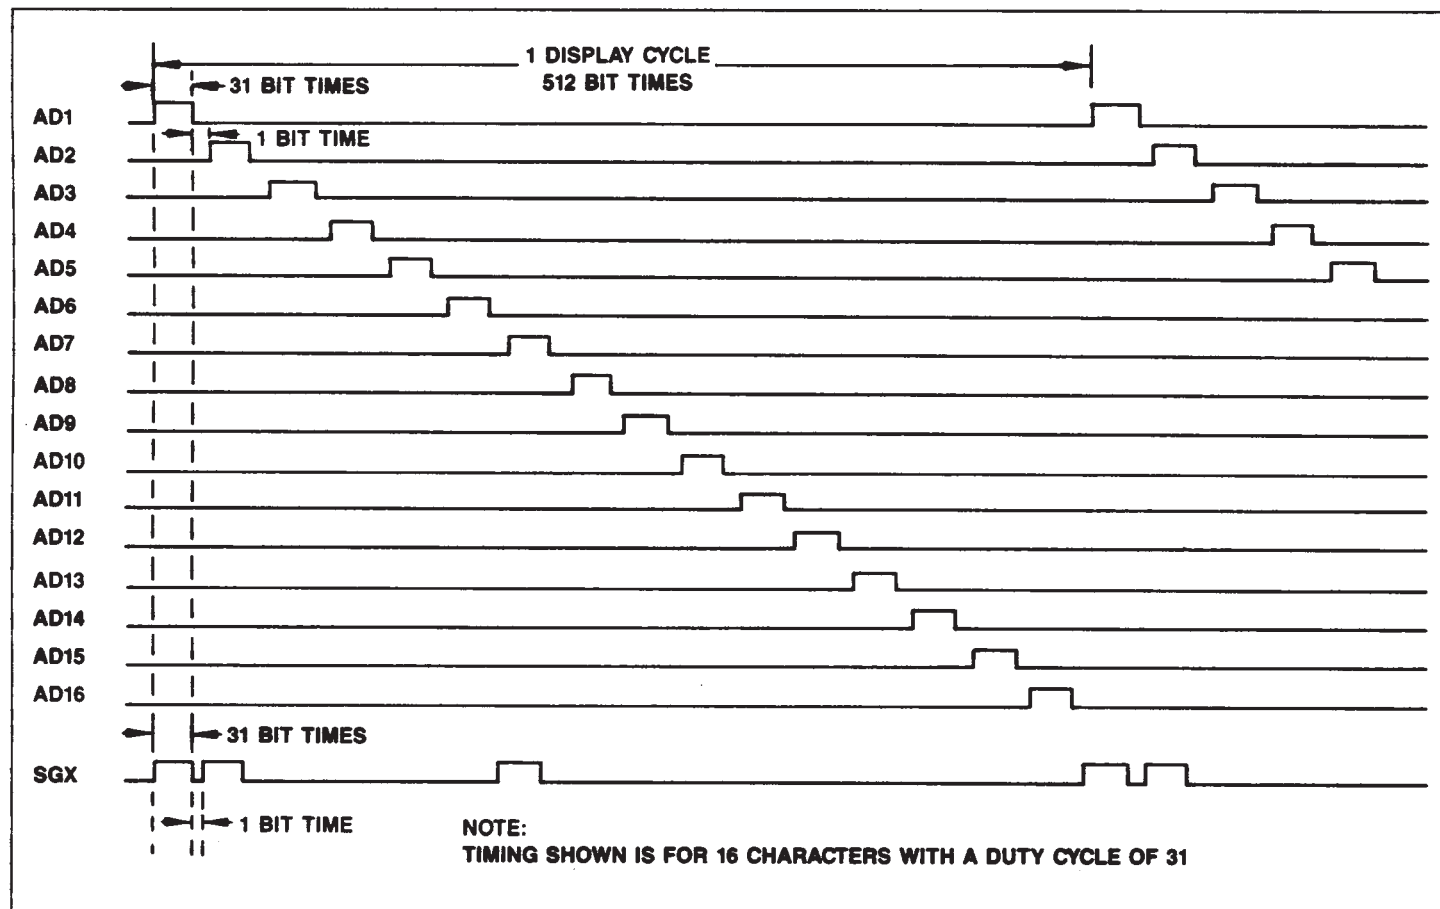
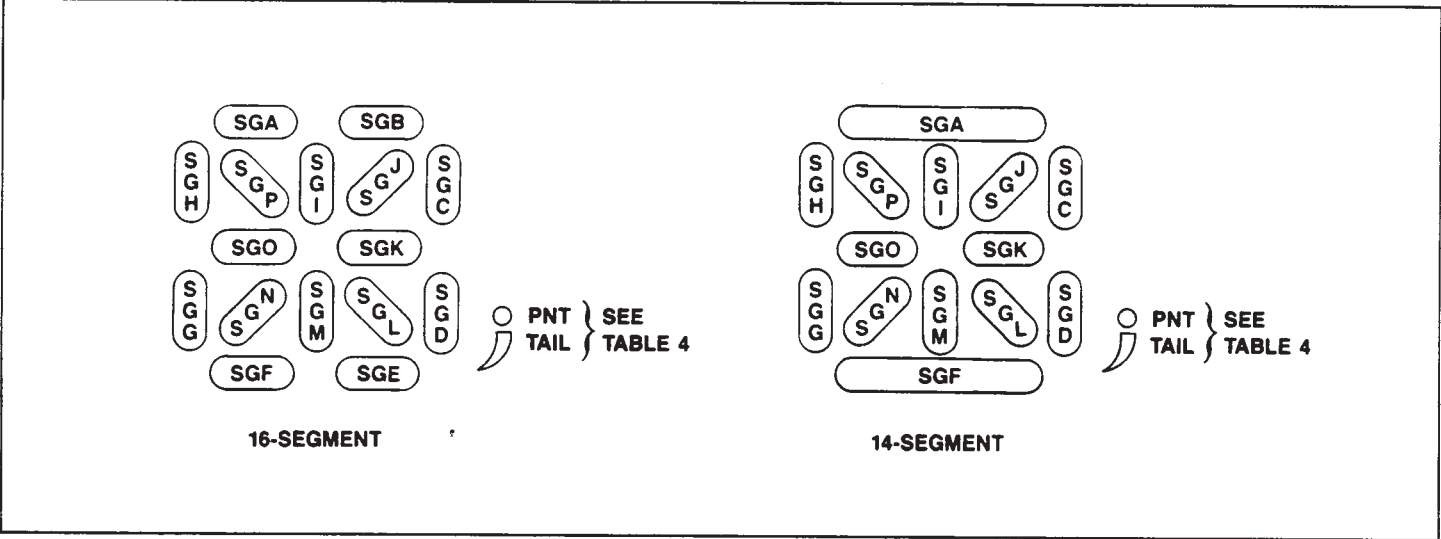

Figure 1. Display Scan Timing Diagram (Duty Cycle)
Figure 2. Segment Driver Allocations
The sixteen Digit Drivers (AD1 – AD16) are used to select each of the display digits sequentially during a refresh scan. Display segments will be illuminated when both the Digit Drivers and Segment Drivers for a particular character are energized simultaneously. The timing characteristics of both the digits and segments are shown in Figure 1. See POR for the Power-On Reset state of these drivers.
Sixteen (16) Segment Drivers are provided (SGA – SGP), plus the decimal point (PNT) and comma tail (TAIL). The segment outputs are internally decoded from the 8-bit characters in the Display Data Buffer by means of a 64 × 16-bit PLA. The Segment Driver Allocations are shown in Figure 2. Data codes and their corresponding segment patterns are shown in Figure 3. Timing characteristics for the segment outputs are shown in Figure 1. See POR for the Power-On Reset state of these drivers.